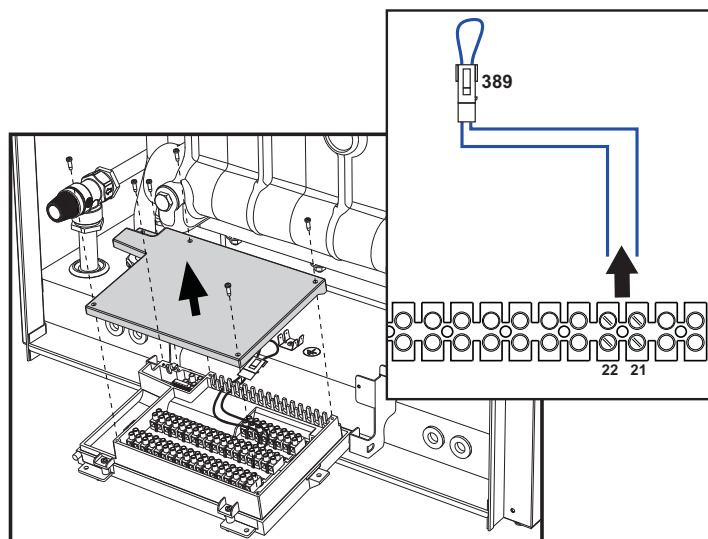

fig. 87
ATTENTION: Before connecting the room thermostat or the remote timer control, remove the connection (ref. 389 fig. 87) from terminals 21 and 22 on the terminal block.